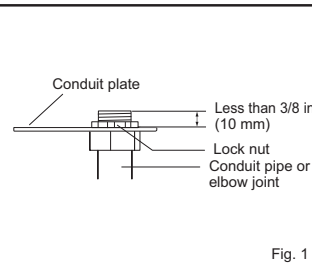
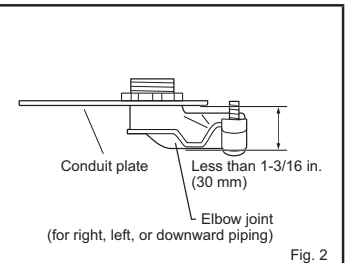

Fig. 1
Fig. 2
- Attach conduit pipe (for rear piping) / elbow joint (for right, left, or downward piping) to conduit plate with lock nut. The thread of the installed conduit pipe / elbow joint appearing inside should be less than 3/8 in. (10 mm). (Fig. 1) Elbow joint should appear less than 1-3/16 in. (30 mm) outside. (Fig. 2)
- Place the refrigerant piping and the drain hose together, then firmly apply felt tape (4) from the end.
- Felt tape (4) overlap width should be 1/3 the tape width. Use a bandage stopper at the end of felt tape (4).
- Pull out the drain cap at the back right of the indoor unit. (Fig. 1)
- Pull out the drain hose at the back left of the indoor unit. (Fig. 2)
- The drain hose should point downward for easy drain. (Fig. 1)
- If the drain hose provided with the indoor unit is too short, connect it with a field-supplied drain hose (I). (Fig. 2)
- 1) Cut the copper pipe as straight as possible with a pipe cutter. (Fig. 1, 2)